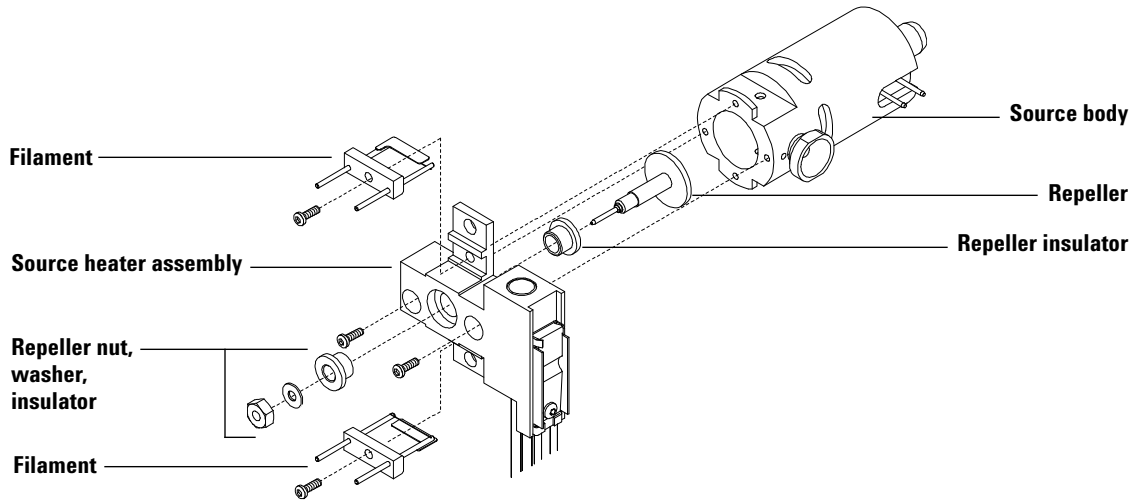

Figure 20 Replacing the heater and sensor
- 5 Remove the repeller assembly (Figure 20). The repeller assembly includes the source heater assembly, repeller, and related parts.
- 2 Reinstall the repeller, repeller insulators, washer, and repeller nut (Figure 20). The resulting assembly is called the repeller assembly.